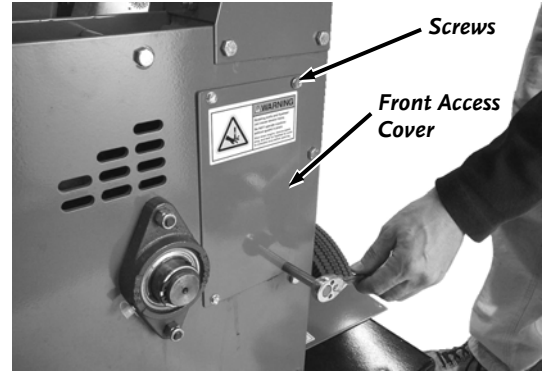

Figure 27
1. Remove the four Screws that secure the Front Access Cover with a 5/16" wrench and remove the Access Cover (**Figure 27**).